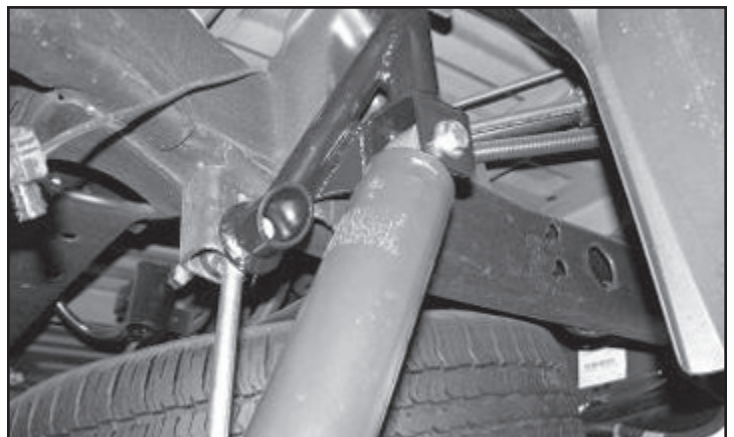

FIGURE 19 - STEP 15
15. Reinstall the factory shocks onto the lower axle mounts with the factory hardware and into the new dropped upper mount using the supplied 9/16" x 3". Torque to 75 lbs. **SEE FIGURE 19**